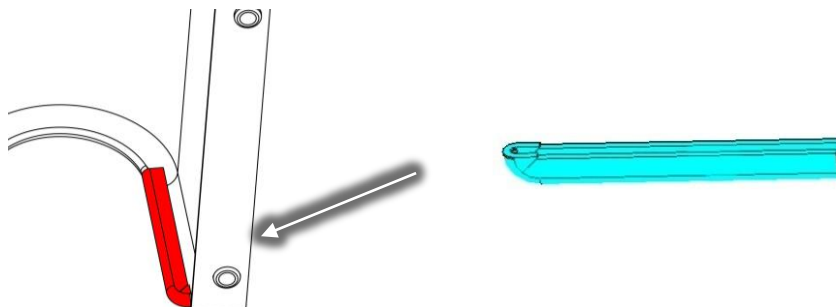

Figure 13 – Capacitor Cover Sealing Foam Lower Left Completion
13. Carefully wrap the foam around the lip of the cover and press firmly. Refer to Figure 13 (Capacitor Cover Sealing Foam Lower Left Completion).